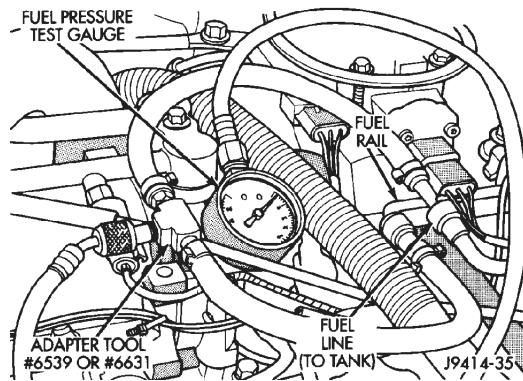
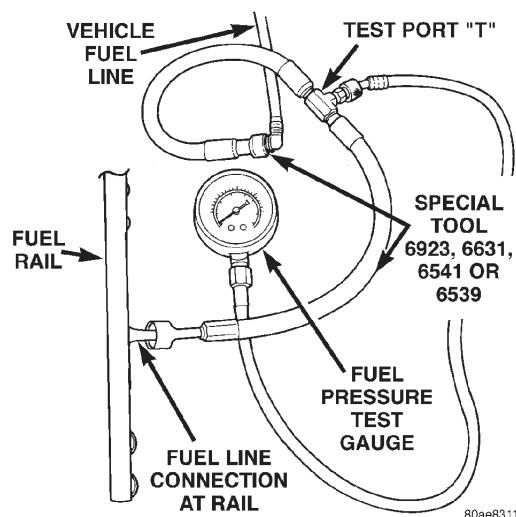

Fig. 8 Connecting Adapter Tool—Typical
Fig. 9 Connecting Adapter Tool—Typical
(1) Disconnect the fuel inlet line at fuel rail. Refer to Fuel Tubes/Lines/Hoses and Clamps in this section of the group for procedures. On some engines, air cleaner housing removal may be necessary before fuel line disconnection.
(2) Connect the appropriate Fuel Line Pressure Test Adapter Tool (number 6539, 6631, 6541 or 6923) between the disconnected fuel line and fuel rail (Fig. 8) or (Fig. 9).
(3) Connect the 0-414 kPa (0-60 psi) fuel pressure test gauge (from Gauge Set 5069) to the test port on the appropriate Adapter Tool. **The fittings on both tools must be in good condition and free from any small leaks before performing the proceeding test.**
(4) Start engine and bring to normal operating temperature.
(5) Observe test gauge. Normal operating pressure should be 339 kPa 34 kPa (49.2 psi 5 psi).
(6) Shut engine off.
(7) Pressure should not fall below **30 psi for five minutes.**